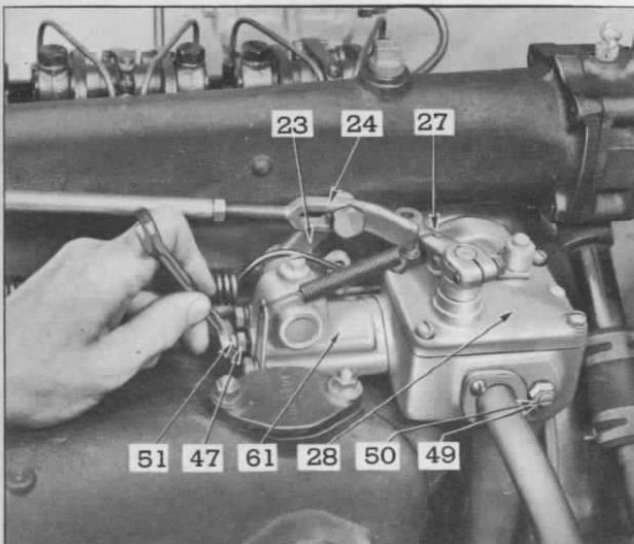

Fig. 35—Adjusting Governor Idling Screw
1. Back out buffer screw (49), Fig. 35 until it projects $\frac{3}{8}$ " from side of governor housing.
2. With governor control shutdown lever (27) in RUN position and speed control lever (23) in approximately half-speed position—slightly forward of vertical—start and warm engines up to operating temperature.
3. Set the governor speed control lever (23) in the IDLE position—all the way forward—with the shutdown lever (27) still in the RUN position as shown in Fig. 35.